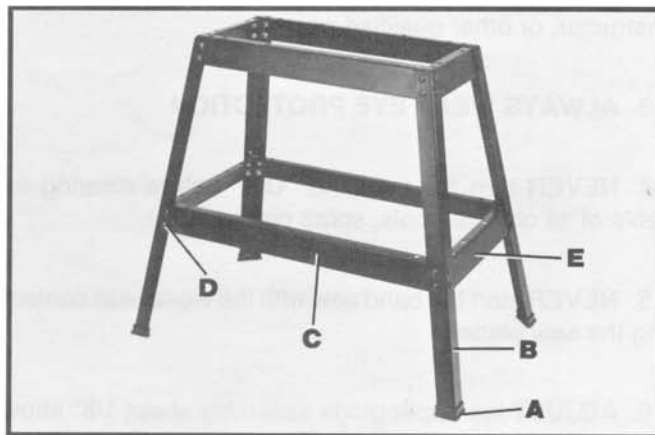

Fig. 2
Carefully unpack the band saw and all loose items, as illustrated in Fig. 2, from the carton.
1. Assemble the stand as shown in Fig. 2, using 32-3/4 inch-long carriage bolts, flat washers and hex nuts supplied.
2. Assemble rubber foot (A) Fig. 2, to each leg (B).
3. Assemble two 31 inch-long tie bars (C) Fig. 2, with flanges up to the center of each stand leg (B) using eight carriage bolts, flat washers and hex nuts (D). **NOTE:** Do not completely tighten hardware at this time.
4. Loosely assemble two 18 inch-long tie bars (E) Fig. 2, with flanges up, to the center of each leg (B), using eight carriage bolts, flat washers and hex nuts.
7. Before tightening hardware (D) Figs. 2 and 3, place stand in upright position and press down on stand until legs adjust to floor surface. Securely tighten all hardware.